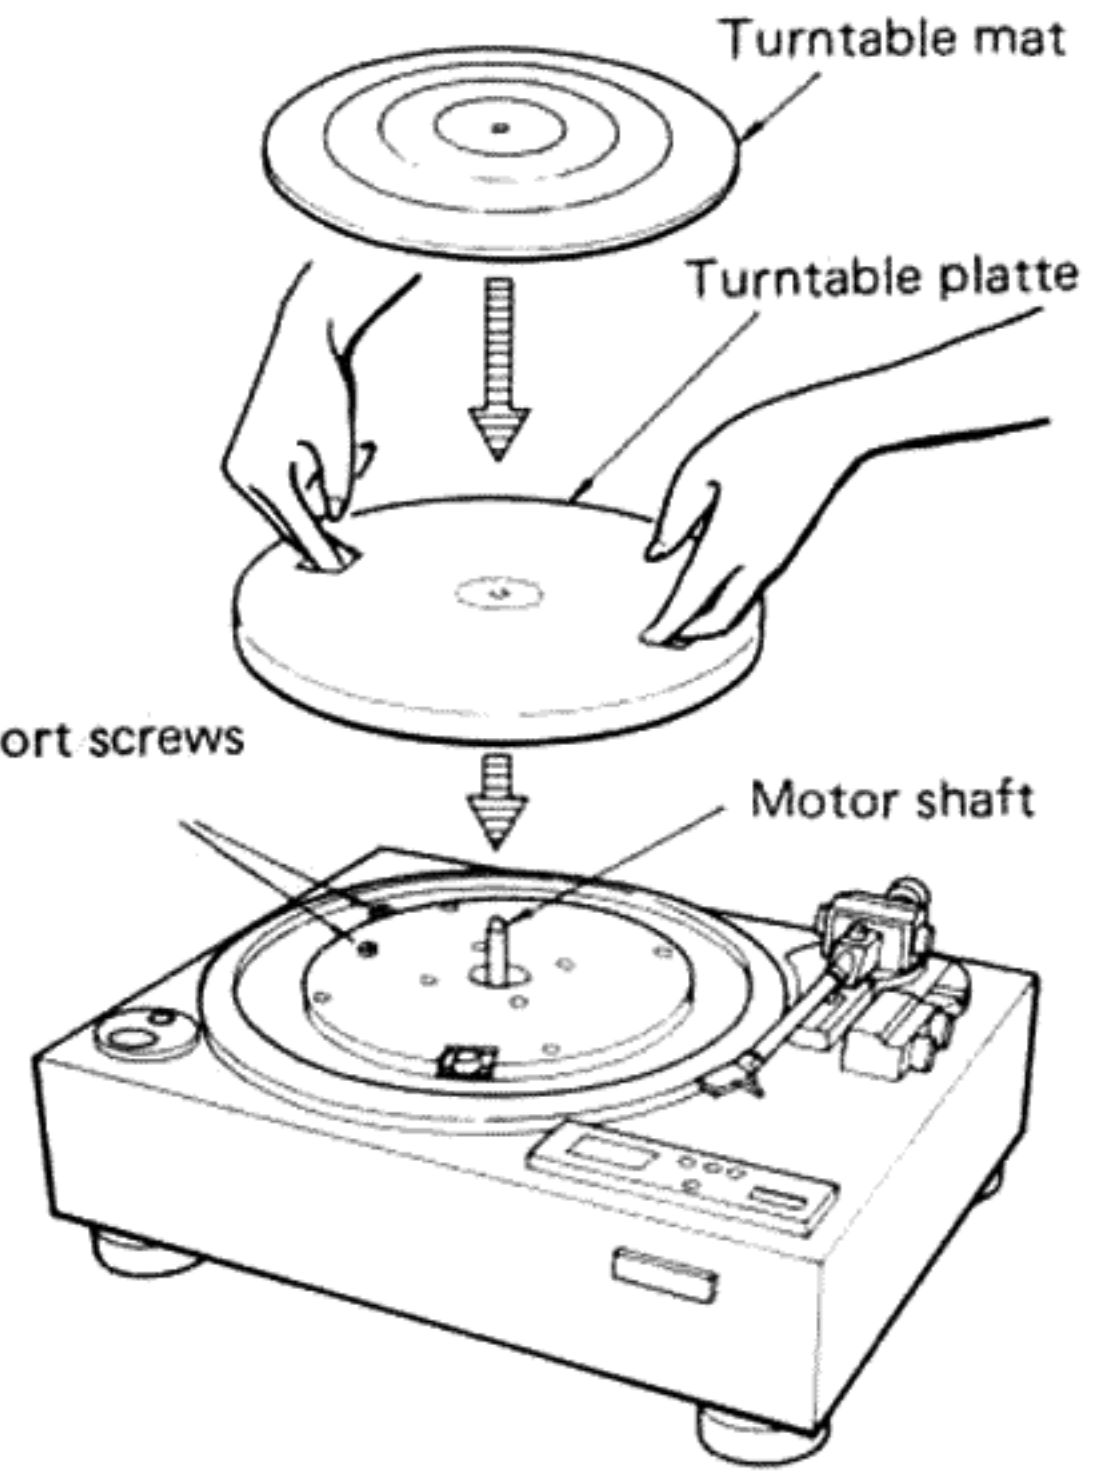

Fig. 1
- (1) Remove the two red transportation screws. (Fig. 1)
- (2) Install the turntable platter onto the motor shaft gently by holding the turntable through the two holes with your fingers, as shown in Fig. 1.